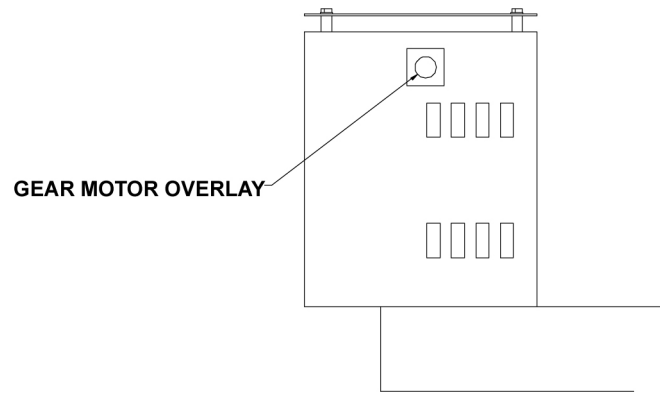

Figure 22. Gear Motor Overload
COMPRESSOR CHECK (See Figure 22)
2. Gear motor thermal overload, manual reset type (red button on motor). (See Figure 22.)